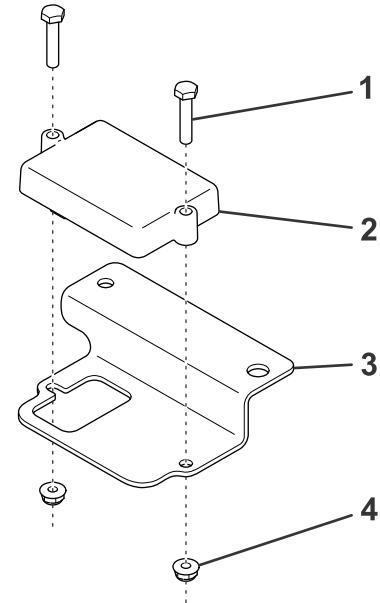

Figure 1
1. Secure the sensor module to the mounting bracket using 2 bolts and nuts (Figure 1).